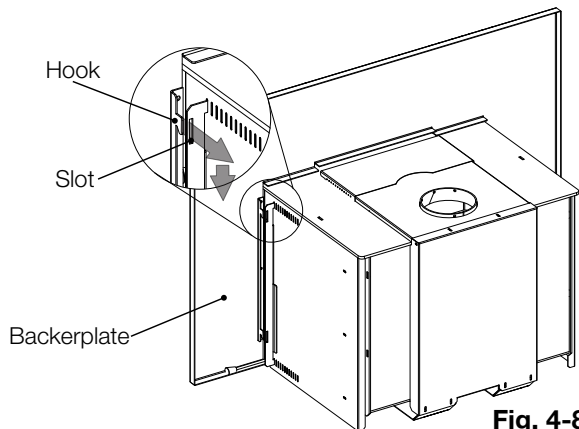

Fig. 4-8
- B. Place the hooks on the backerplate into the slots in the brackets previously installed in step A (Fig. 4-8).